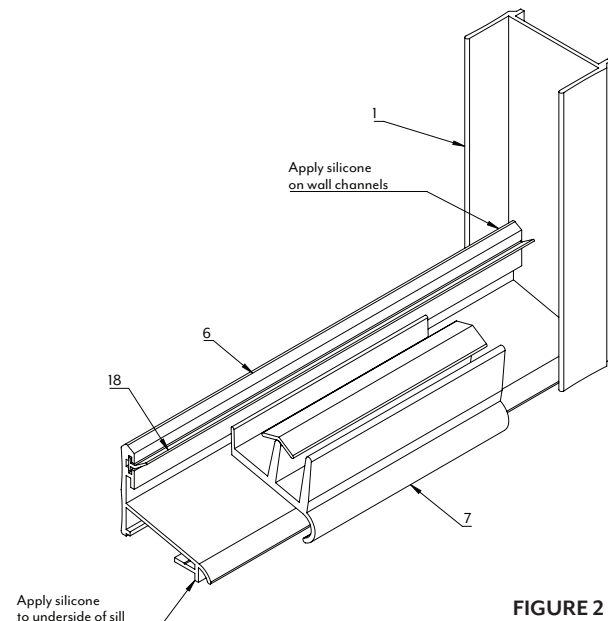

FIGURE 2
1. Set wall jambs (1) in place on walls, centering bottom of jambs on rim of tub. Hold plumb and mark walls for screw holes.
2. Remove and drill 3/16" diameter holes in walls (use a carbide tipped drill bit for tiles walls). Insert plastic wall anchors (2) into holes. Silicone where the wall meets the rim of the tub to seal the bottom of jamb. Set jambs in place and secure to the wall with #8 x 1/4" screws (3). Secure bottom bumper (4a) on shower head/inside side with the bottom wall jamb screw.
3. Cut sill (6) to fit opening between jambs. Run a bead of silicone full length to the underside of sill (See Figure 2) and apply silicone to inside of jamb where jamb meets tub. On the inside of jamb, run an 1/4" bead of silicone 1-1/4" up the outside leg of each wall jamb (See Figure 2). Set curb in place, then press firmly to rim of tub. Wipe off any excess silicone before curing. Use tape to hold in place until silicone has set.
4. Cut header (8) 1/32" to 1/16" less than opening width and set in place.
5. To set slider glass in place, hold inside slider inside of tub shower pan, insert rollers up into header and lower into place. The inside slider glass has only one hole for the inside pull handle (10) and will close against the wall jamb on the shower head side. Next, insert lower end of outside slider in front of inside slider by pushing lower ends far enough in to allow clearance on inside edge of tub or pan. Avoid roller brackets to roller bracket contact while lifting panel into place. The outside slider will close against the jamb opposite the shower head.
6. Place center guide (7) to center position on sill (See Figure 2). Make sure the center guide is hooked into the slot position on the sill, then snap center guide to sill.
8. To install towel bar (9), place nylon towel bar insert sleeves (13) into holes in the glass (17). Next, hold the tubular towel bar (9) against the hole in the glass with the nylon towel bar/pull washer (12) between the glass and the towel bar.